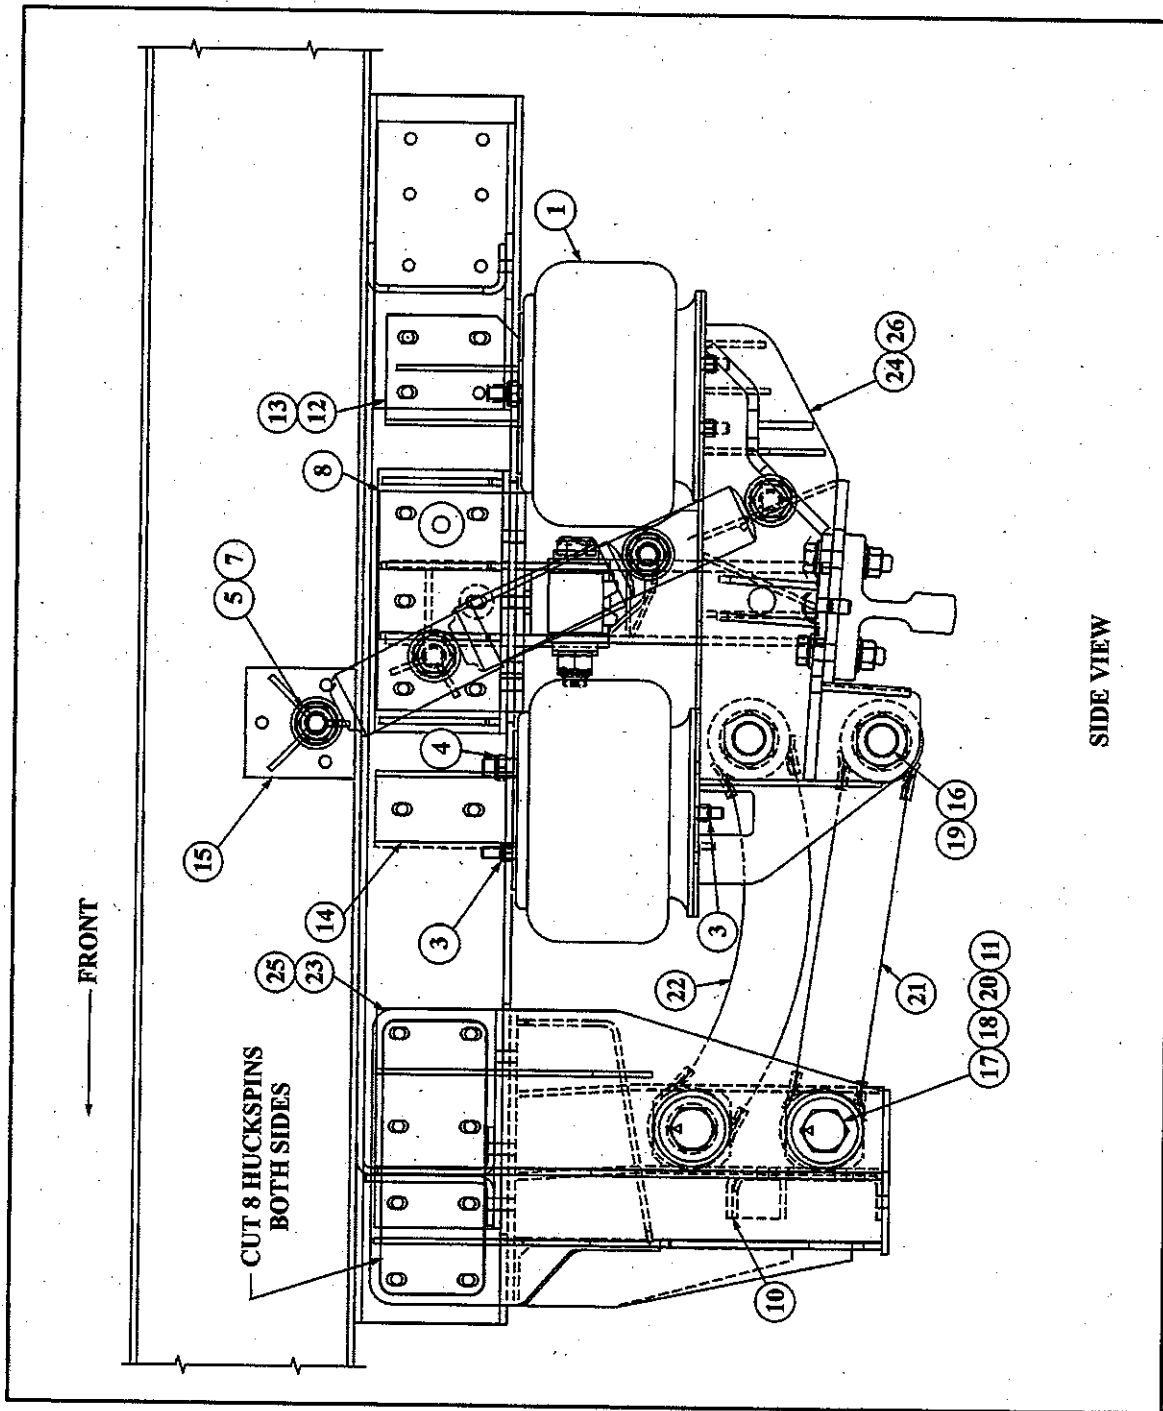

Figure 4—Disassembly of Suspension
1. Remove nuts (3) and (4) and washers from air bag bolts. (See Figure 4—Disassembly of Suspension.)